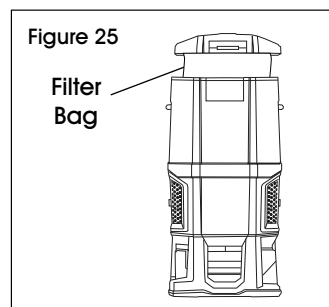

Figure 25
5. Check filter bag. Change if full. (See Figure 25)